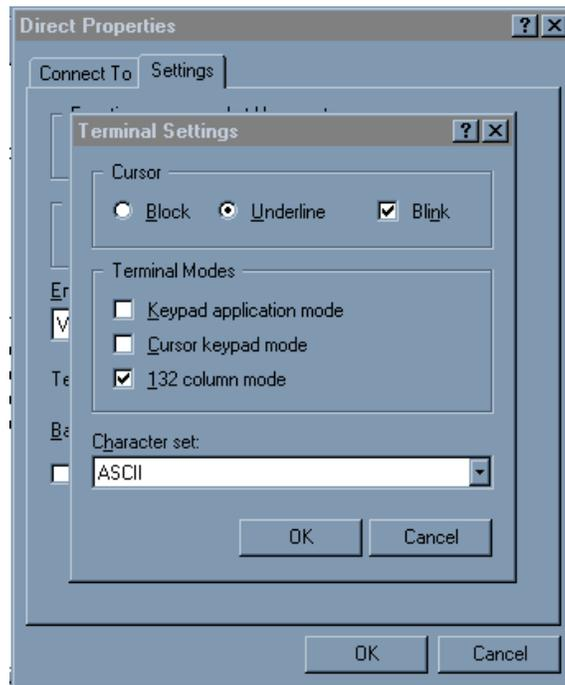

Figure 5-5. Terminal Settings
6. Click on “Terminal Setup...”. Match the settings to those in Figure 5-5. Click OK.